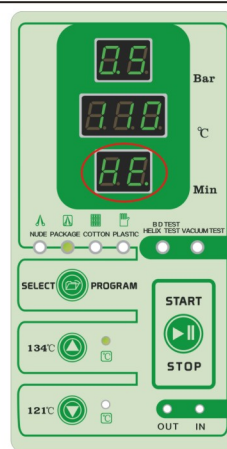

Fig. 7.4-6
(9)**third times Heating stage:** When the end of the vacuum pump to work 3 minutes,the control system will open water pump solenoid valve(Ev2) and steam generator start inject the steam into chamber,temperature display window show high temperature and up.pressure display window show high pressure and up.operation display window show “HE” .when temperature in chamber up to 134℃,start sterilization.(Fig.7.4-6)
- (3) **First times Heating stage:** When the end of the vacuum pump to work 4 minutes, the control system will open water pump solenoid valve (Ev2) and steam generator start inject the steam into chamber, temperature display window show high temperature and up. pressure display window show high pressure and up. operation display window show “HE” . (Fig. 7.4-6)
- (5) **Second times Heating stage:** when the pressure down to 0.0bar, the control system will open water pump solenoid valve (Ev2) and steam generator start inject the steam into chamber, temperature display window show high temperature and up. pressure display window show high pressure and up. operation display window show “HE” . when temperature in chamber up to 134°C (134°C sterilization program) or 121°C (121°C sterilization program), start sterilization. the next step to (10). (Fig. 7.4-6)